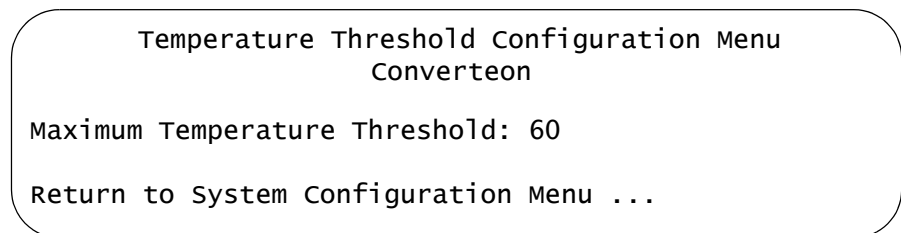

Figure 39. Temperature Threshold Configuration Menu
3. Select **Temperature Threshold Configuration** to display the Temperature Threshold Configuration Menu in Figure 39. The temperature threshold is given in Celsius ( $^{\circ}$  C).